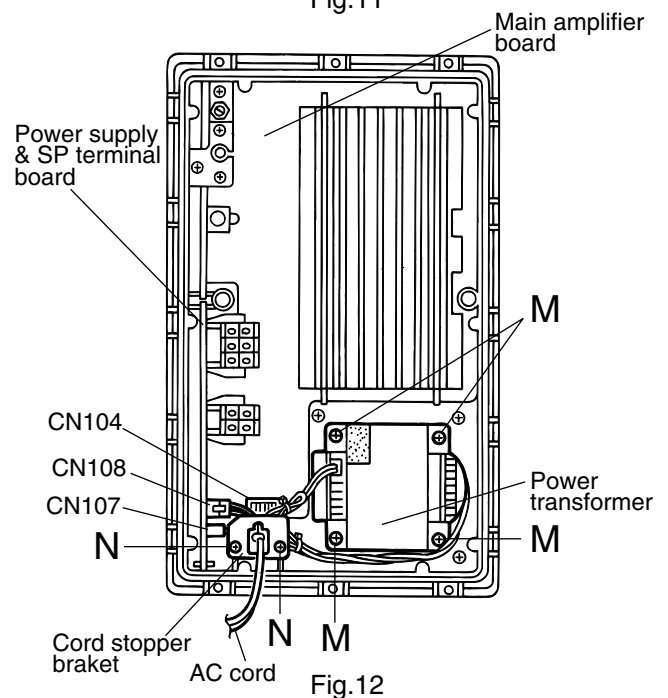

Fig.12
■ Removing the power transformer (See Figs.12 and 13)
- Prior to performing the following procedure, remove the heat sink cover, the amplifier assembly, the amplifier cover, the preamplifier board, the power supply & SP terminal board, the main amplifier board, the power amplifier board (A) and power amplifier board (B).
■ Removing the AC power cord (See Fig.12)
- Prior to performing the following procedure, remove the heat sink cover, the amplifier assembly, the amplifier cover, the preamplifier board, the power supply & SP terminal board, the main amplifier board, the power amplifier board (A), the power amplifier board (B) and power transformer.